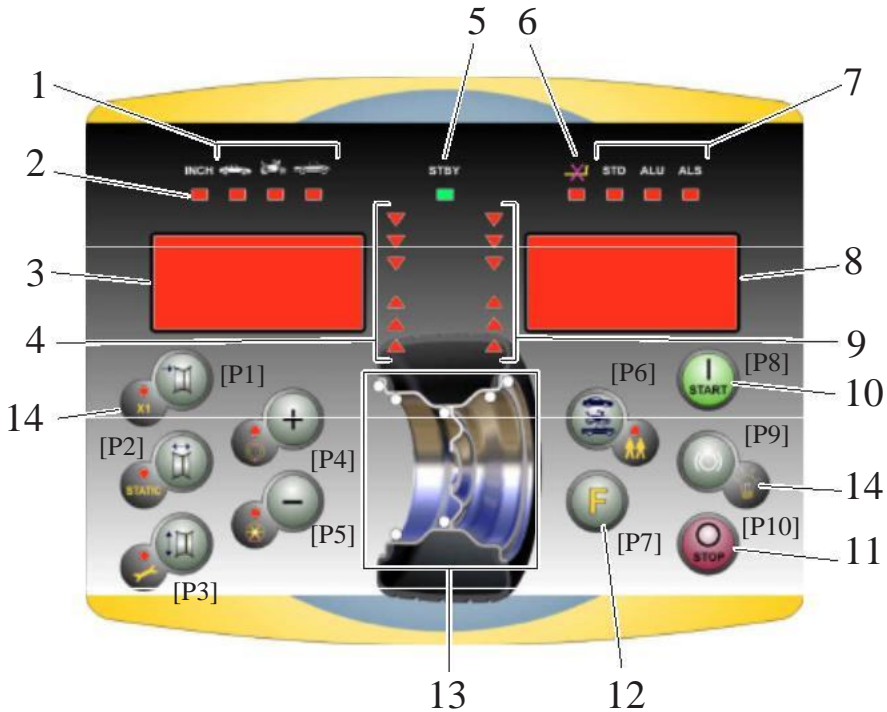

Figure F1: Control Panel.
The machine control panel is shown in Figure F1. The control panel allows the operator to give commands and enter or modify data. The same control panel displays the balancing results and machine messages. The functions of the various sections of the control panel are described in table T1. The rear side of the control panel contains the CPU-C1 electronic control board that collects, processes and displays data.
In this manual, the keys are numbered for convenience from [P1] to [P10] as shown in Figure F1. In addition to the reference numbers of the key, the icons of the same keys are displayed to facilitate reading.
- Programme type LED See figure F1, detail [7].
- Weight Imbalance Position LED. See figure F1, detail [13].